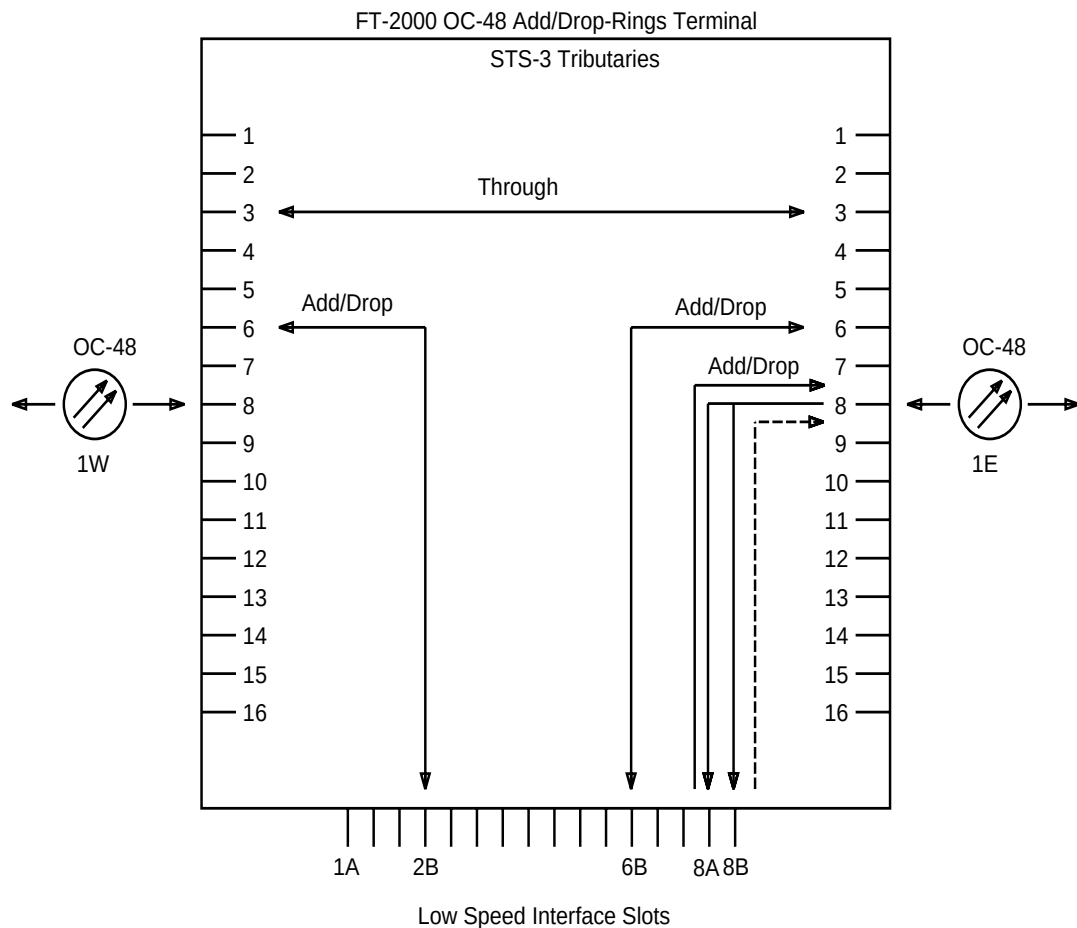

Figure 8-6. STS-3 2-Way Cross-Connections at an FT-2000 OC-48 Add/Drop-Rings Terminal
- **Add/drop cross-connections:** Add/drop cross-connections are made between any service low-speed interface slot and any 155 Mb/s (STS-3) tributary of OC-48 high-speed line 1E or 1W. For example, Figure 8-6 shows service low-speed interface slot 2B cross-connected to service STS-3 tributary 6 of OC-48 high-speed line 1W. (In 2-fiber bidirectional rings, STS-3 tributaries 1 through 8 are service tributaries and STS-3 tributaries 9 through 16 are protection tributaries.)
Add/drop cross-connections are made between any service low-speed interface slot and the companion low-speed interface slot (for example, slot 2A and 2B) when the slot pair is provisioned for the OC-3 1+1 protected mode and any service STS-3 tributary. A single input enters an active and a standby add cross-connection and two active drop cross-connections. For example, Figure 8-6 shows service low-speed interface slot pair 8A and 8B cross-connected to service STS-3 tributary 8 of OC-48 high-speed line 1E.
- **Through cross-connections:** Through cross-connections are made between any STS-3 tributary on OC-48 high-speed line 1E or 1W and the same-numbered STS-3 tributary of the other OC-48 high-speed line. For example, Figure 8-6 shows service STS-3 tributary 3 of OC-48 high-speed line 1W cross-connected to service STS-3 tributary 3 of OC-48 high-speed line 1E.
When an STS-3 tributary of OC-48 high-speed line 1E or 1W is cross-connected to a service low-speed interface slot, another service low-speed interface slot may be cross-connected to the same-numbered STS-3 tributary of the other OC-48 high-speed line. For example, Figure 8-6 shows service low-speed interface slot 2B cross-connected to service STS-3 tributary 6 of OC-48 high-speed line 1W, and service low-speed interface slot 6B cross-connected to service STS-3 tributary 6 of OC-48 high-speed line 1E. This is consistent with the 2-fiber bidirectional, line-switched ring standard.